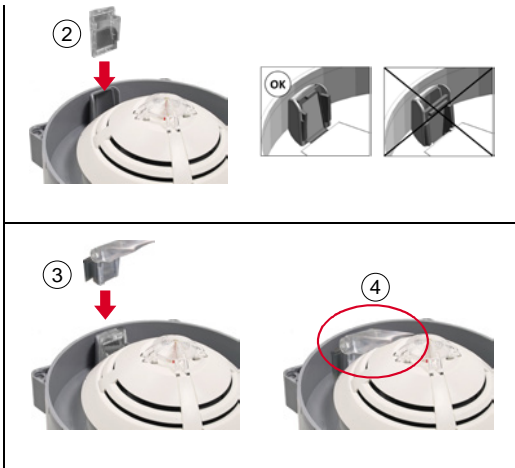

Fig. 25: Insert filter and air guide bracket
- Insert the filter ② first (Part No. 781464 - accessories) and then the air guide bracket ③ incl. flow indicator in the correct position so that it is flush to the fire detector ④ (refer to Fig. 25).
- The filter ② must always be placed in the housing. The filter has also the function to protect the fire detector and the inside of the housing from pollution in difficult environmental conditions (strong proportion of dirt particles in the air).
- The filter is fitted acc. Fig. 25 in required position.